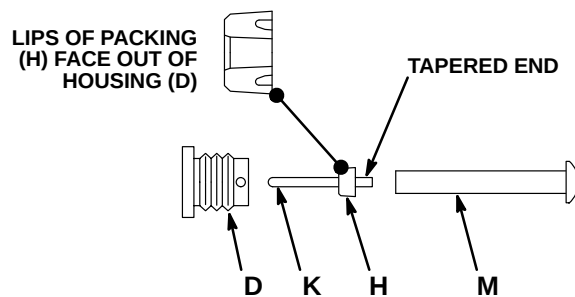

Fig 8
8. Grease the needle (K) and packing (H). Insert the tapered end of the needle into the back (flat) side of the packing. See Fig 8.
9. Guide the tapered end of the needle into the assembly tool (M) and press the lips of the packing over the end of the tool. See Fig 8.
10. Guide the tool (M) into the fluid housing (D) until the needle protrudes through the bottom of the housing. Lightly tap the end of the tool until you "hear" the packing bottom in the housing. Remove the tool with pliers. See Fig 8.